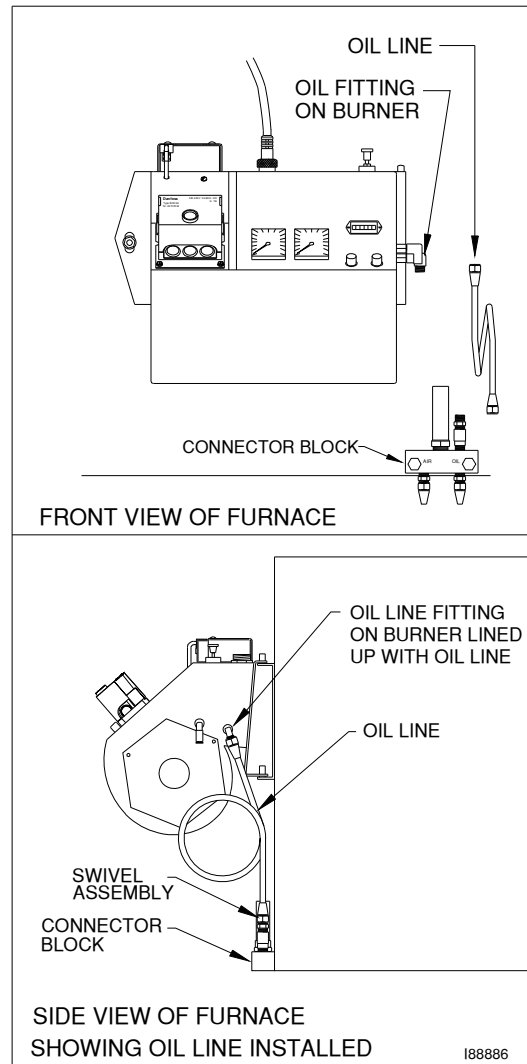

Figure 3G - Installation of Connector Block and Oil Line
1. Refer to Figure 3G.
2. Use the two (2) bolts to install the aluminum connector block onto the furnace cabinet.
5. Make sure that the curl in the oil line is positioned as shown in Figure 3G so that the burner can swing open correctly.